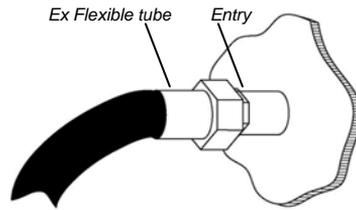

Fig.4
- b. As Fig.4, firstly tightening screw joint and then tightening ex flexible tube